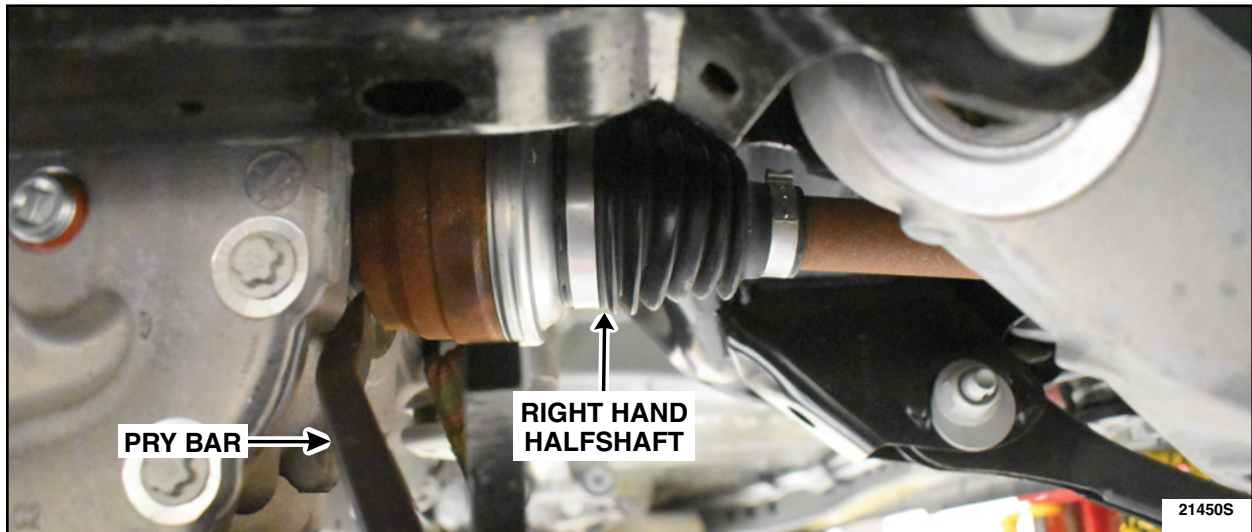

FIGURE 7
12. Using a pry bar, remove the Left Hand (LH) halfshaft.
13. Using a pry bar, disengage the Right Hand (RH) halfshaft inner halfshaft circlip. See Figure 7.